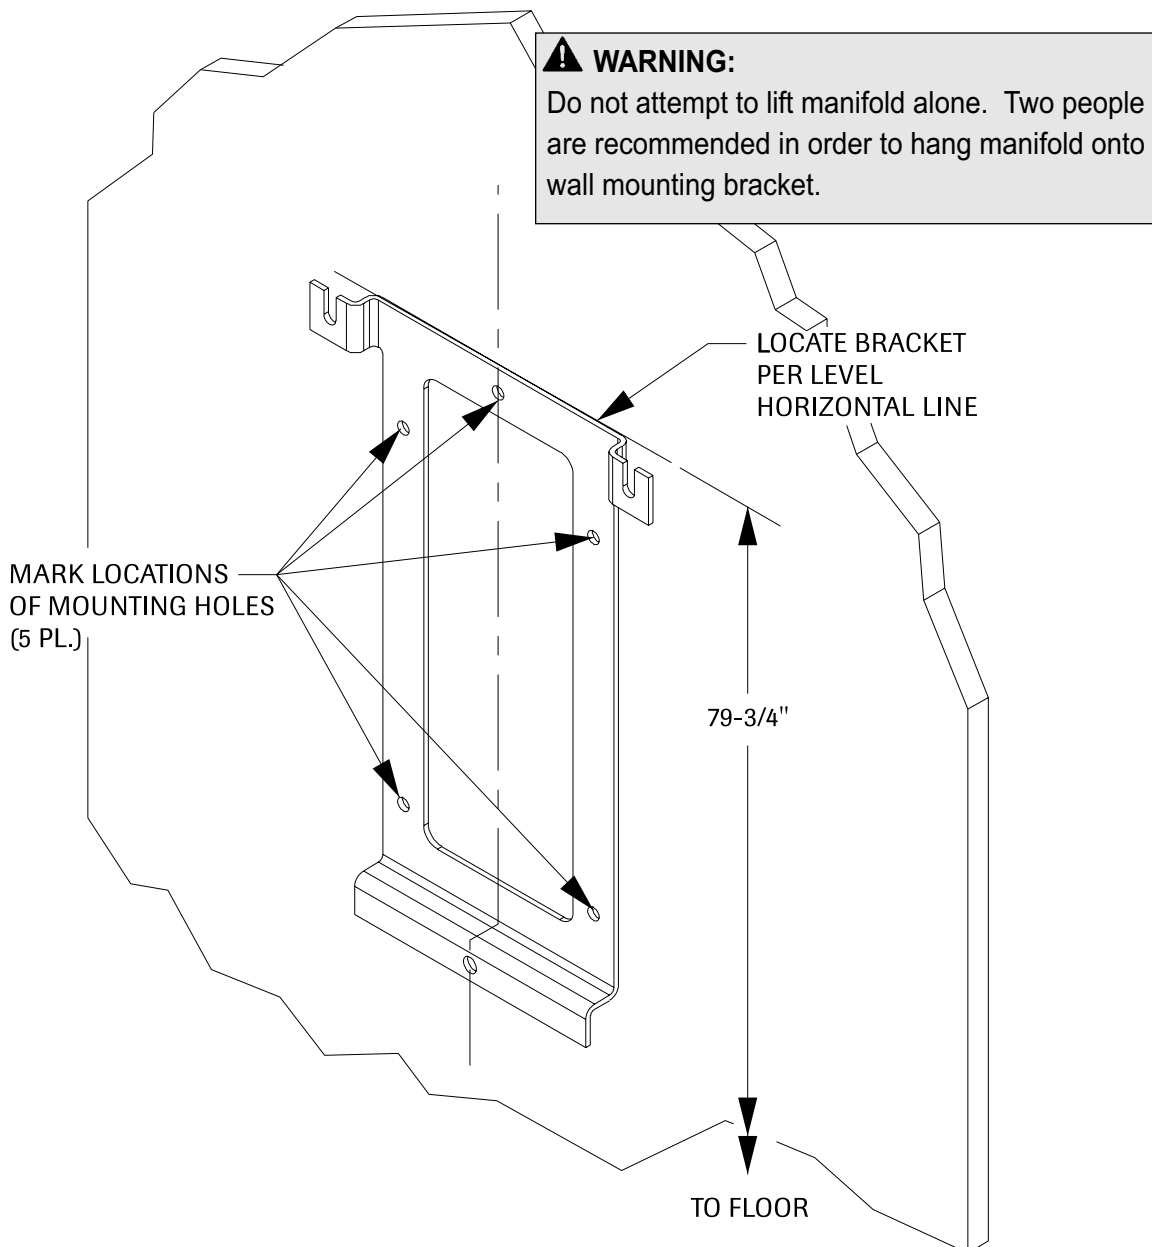

Figure 2
4. Place bracket flat against wall as shown in Figure 2 and align top of bracket with level horizontal line. Vertical center line of bracket will be vertical center line of installed manifold. Mounting top of bracket at 79-3/4" height will net a 61" height from center of manifold control inlets to finished floor.